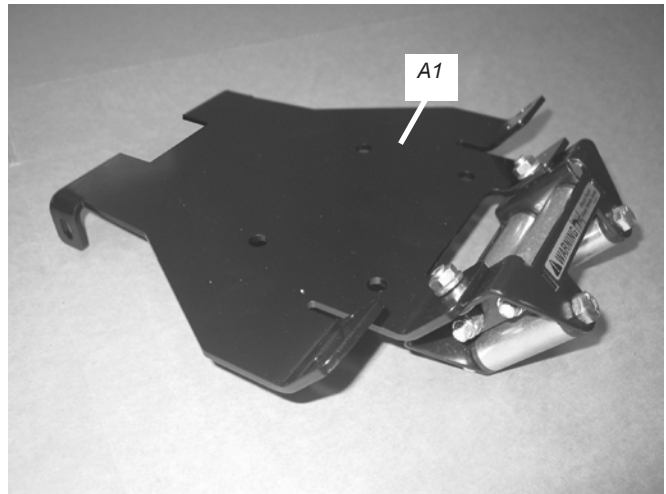

Figure 8 Attach Roller Fairlead
- Attach the roller fairlead to the winch mounting bracket (A2), figure 8. Use the two supplied 3/8" dia bolts, nuts, and lock washers provided with the winch as shown in figure 8. Tighten the two 3/8" dia bolts to a recommended torque of 34 N-m (25 ft-lb).